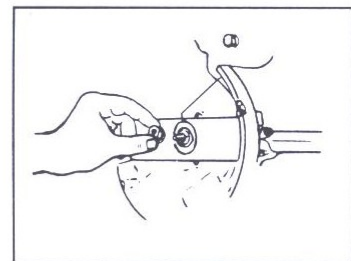

Fig. 11
3. Install the blade, retainer washer and lock nut. Insert the locking rod tool into the slot or blade driver. Proper care should be taken to ensure that the blade stays in its proper position. Torque the lock to 225/250 lbf•in (Fig. 11).